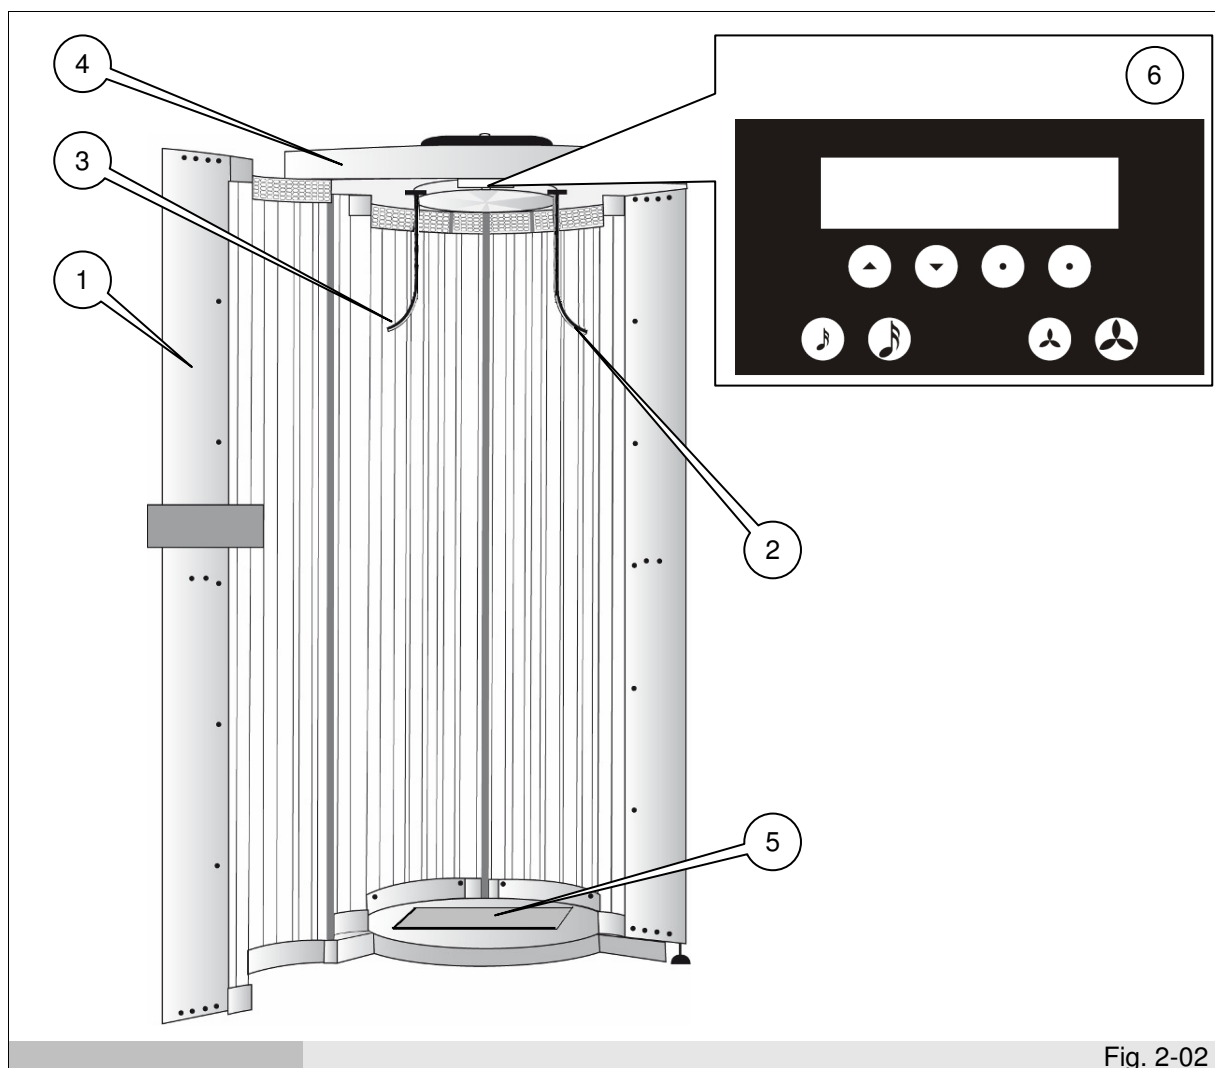

Fig. 2-02
- Door (ref. 1 fig. 2-02)
- Right-hand wall (ref. 2 fig. 2-02)
- Left-hand wall (ref. 3 fig. 2-02)
- Roof (ref. 4 fig. 2-02)
- Base with Beauty Vibro Plate Plus (ref. 5 fig. 2-02)
- Control panel (ref. 6 fig. 2-02)